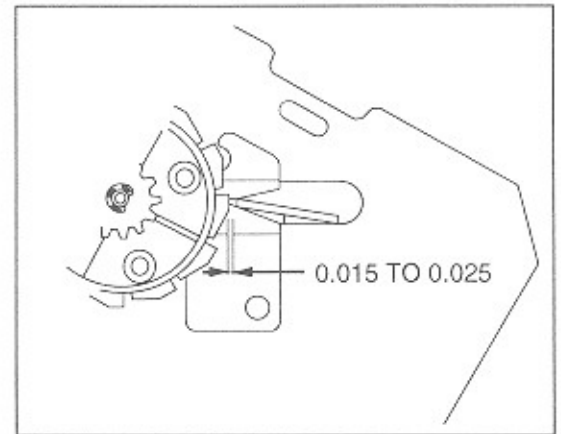
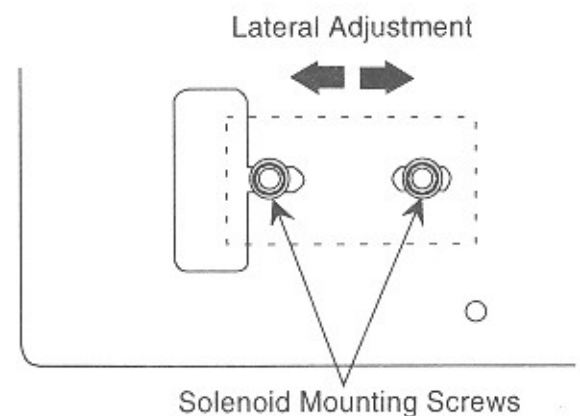

Figure 6-7. Sprag Wheel
Figure 6-9. Lateral Adjustment
The sprag lever must not touch the sprag wheel and the clearance must be .015 to .025 inches (See *Figure 6-7*). It will be necessary to remove the sprag assembly if corrections are required.
2. Loosen the solenoid mounting screws (See Figure 6-9). With the roll pin against the plunger stop, position the solenoid so there is a .015 to .025-inch gap between the sprag lever and the highest point on the sprag wheel (See Figure 6-7).